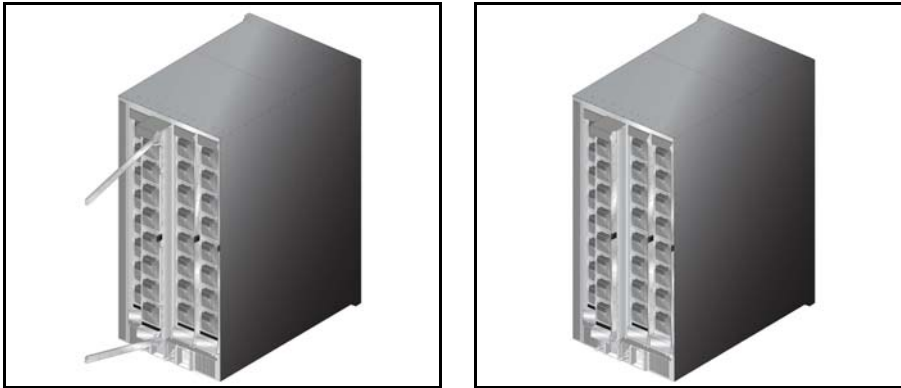

Figure 25: Fabric Module Removal: Edging the Module Out and Closing the Lock-Levers
- Step 3** Use the lock-levers to pull the module three to four inches from the installed position (Figure 25-left).
- Step 4** Return the lock-levers to the closed position (Figure 25-right)
- Step 2** Slide the module into the chassis until it's within three to four inches of being fully inserted (Figure 25-right).
- Step 3** Press the Release Button to release the lock-levers into the open position (Figure 25-left).